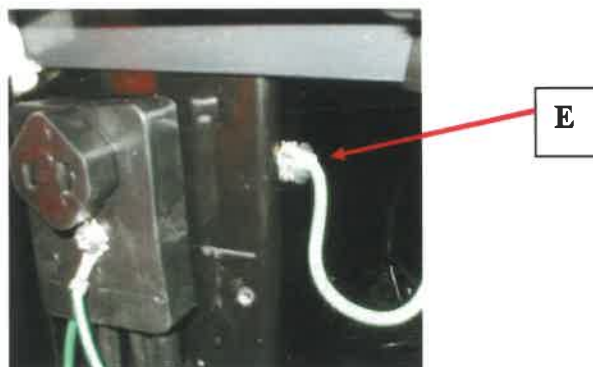

Figure 3
6. Disconnect the ground wire (E Figure 3) from the left side of the cabinet.